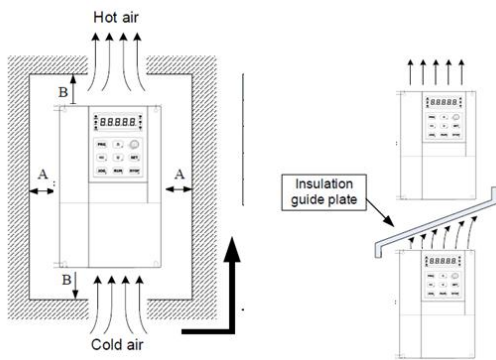

Fig 3-1 AD series Ac drive installation
- 1) Reserve the installation clearances as specified in Figure 3-1 to ensure sufficient space for heat dissipation. Take heat dissipation of other parts in the cabinet into consideration.
- 2) Install the AC drives upright to facilitate heat dissipation. If multiple AC drives are installed in the cabinet, install them side by side. If one row of AC drives need to be installed above another row, install an insulation guide plate, as shown in Figure 3-1.